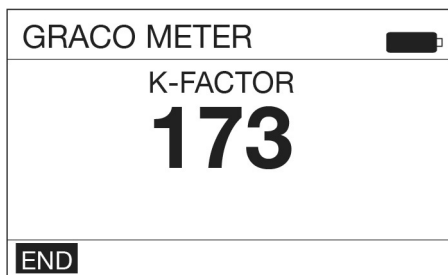

FIG. 17
- When exactly one (1) quart or one (1) liter of fluid is dispensed into the flask use the center ENTER button on the keypad to select END. A screen displaying the quantity of fluid dispensed displays (FIG. 17 shows an example of the dispensed volume screen).